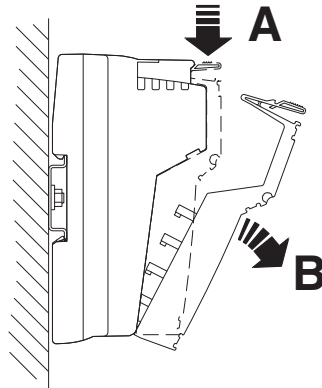

Figure 2-13 Removing the Inline controller (1)
When removing the Inline controller from the DIN rail, proceed as shown in Figure 2-13:
- Lever each of the connectors out by pressing on the rear connector catch (Figure 2-13, A).
- Detach the connectors (Figure 2-13, B).